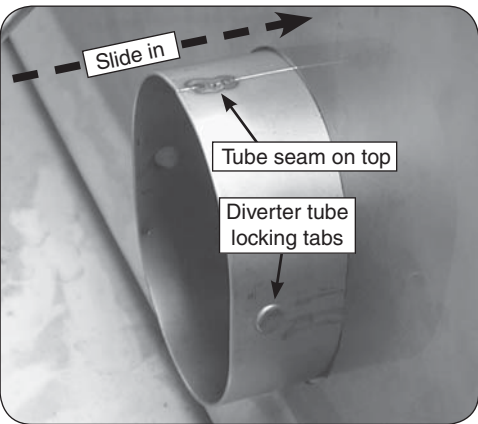

Fig. 1-3 Installing diverter tube
8. Install the diverter tube into the cutout from the inside of the grill and slide it into place until the tabs are reached (see Fig. 1-3).